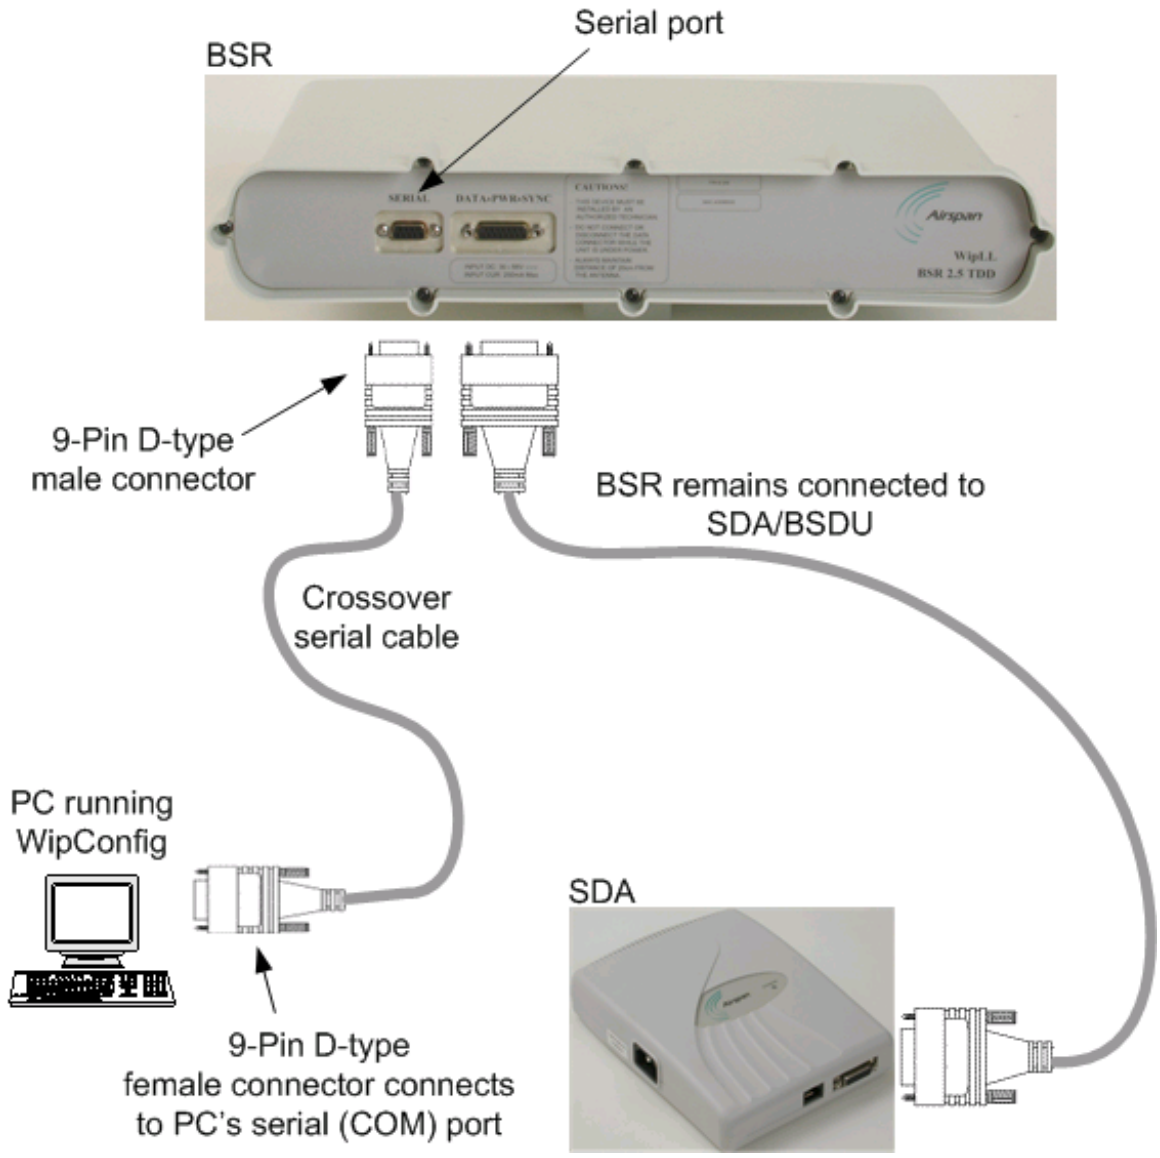

Figure 4-4: BSR-to-PC serial connection
1. Connect the serial cable’s **9-pin D-type male** connector to the BSR’s 9-pin D-type port labeled **SERIAL**, as displayed in Figure 4-4.
2. Connect the serial cable’s **9-pin D-type female** connector to the PC’s serial port, as displayed in Figure 4-4.